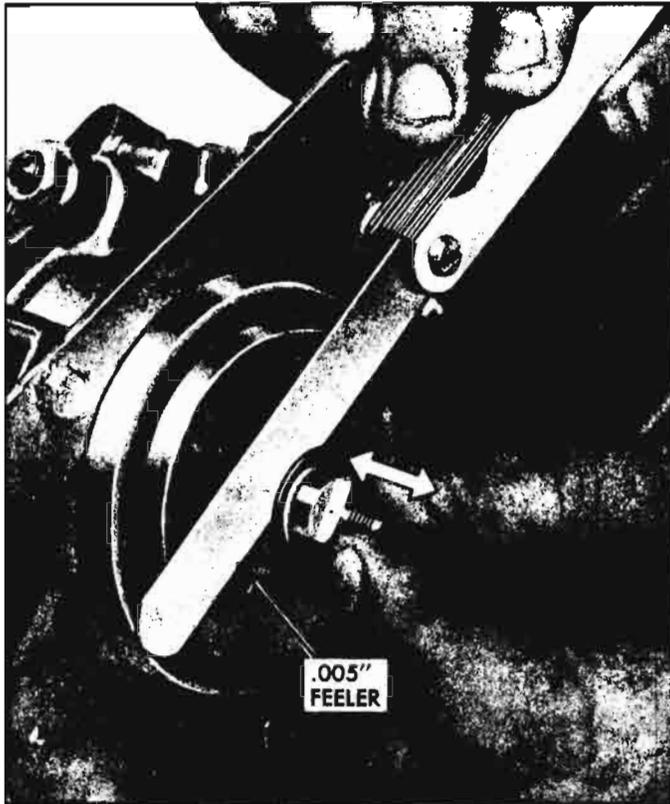

Fig. 8-131—Measuring Gear Shaft End Play
4. Assemble end play washers (9) and retaining ring (10) to gear shaft (3).
5. Check end play of gear shaft assembly by inserting feeler between gearbox and end play washers while moving shaft endwise (fig. 8-131). If end play exceeds .005", remove retainer ring and add end play washers as required, then install seal cap (11) after first packing it with a waterproof grease.